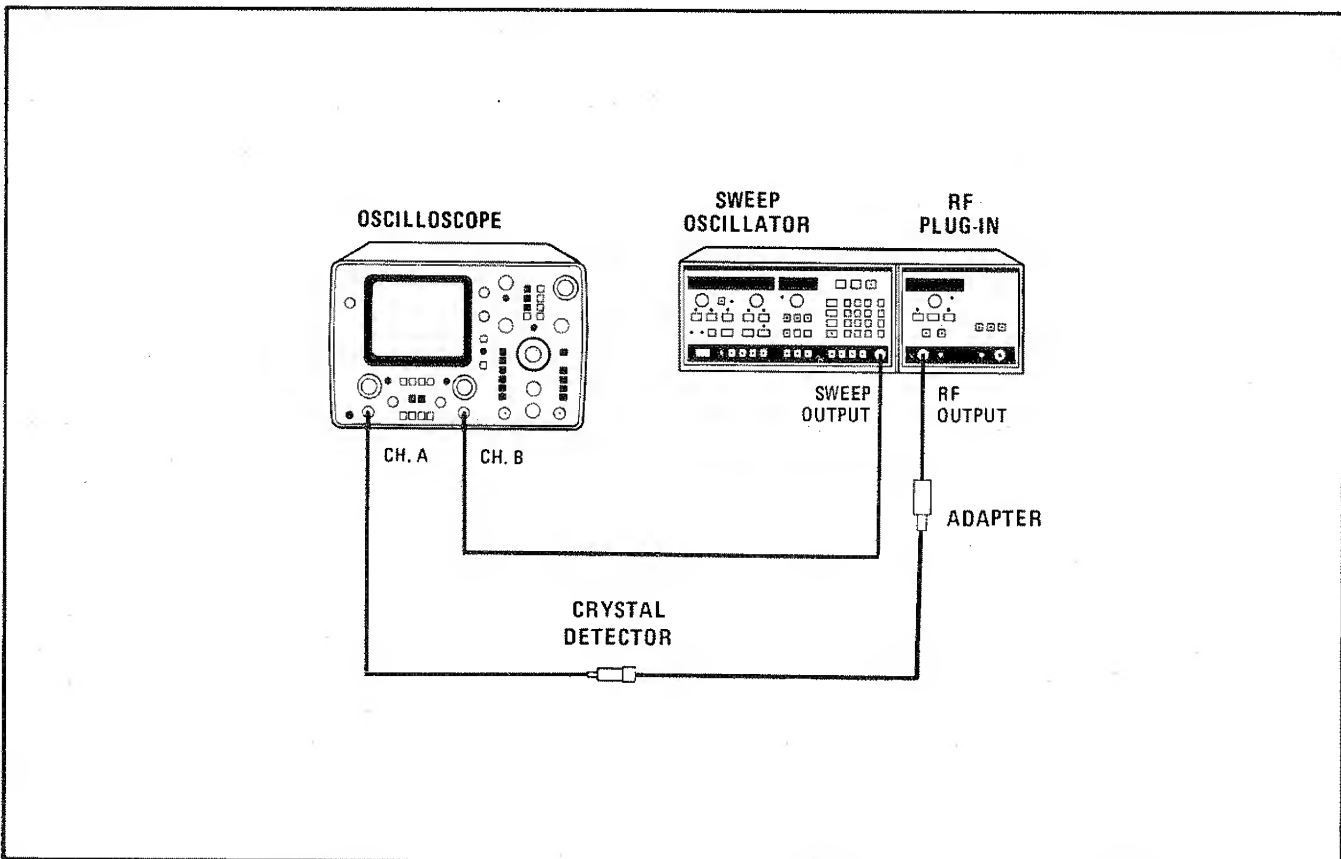

Figure 4-1. Test Setup for Multiband Operation
- a. This test verifies that the sweep is stopped at the bandswitch points to enable a change to the next band. This test is performed only on the 86290A/B/C. Connect the equipment as shown in Figure 4-1, with the 1740A Oscilloscope in A vs B mode. (If a different model oscilloscope is used, externally sweep the scope with the 8350A SWEEP OUTPUT.) On the 8350A select a START frequency of 2 GHz, a STOP frequency of 18 GHz, and a fast sweep time. Set the 86290 for maximum leveled output power. If one or more of the bands has no power, suspect Output Latch U9 or Inverter U11A.